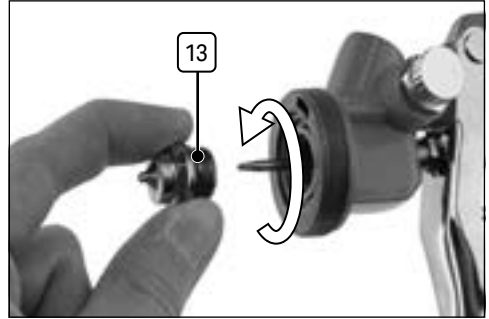

Fig. 3
2. Unscrew and remove the nozzle head (13) (Fig. 3).